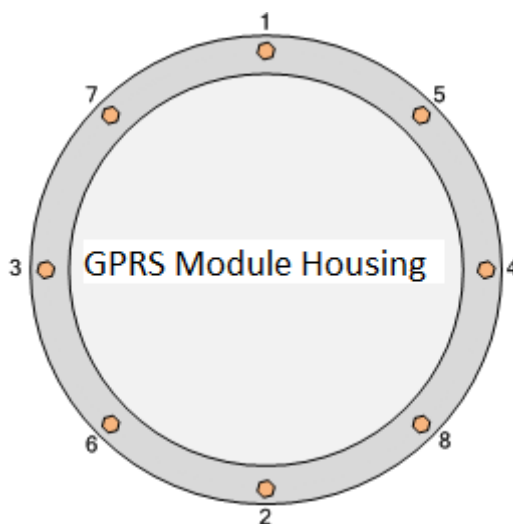

Figure C.1 Plan View of GPRS Module Housing
- 1) The screws must be tightened in the sequence 1, 2, 3, 4, 5, 6, 7 and 8 when the housing is installed as shows in Figure C.1.